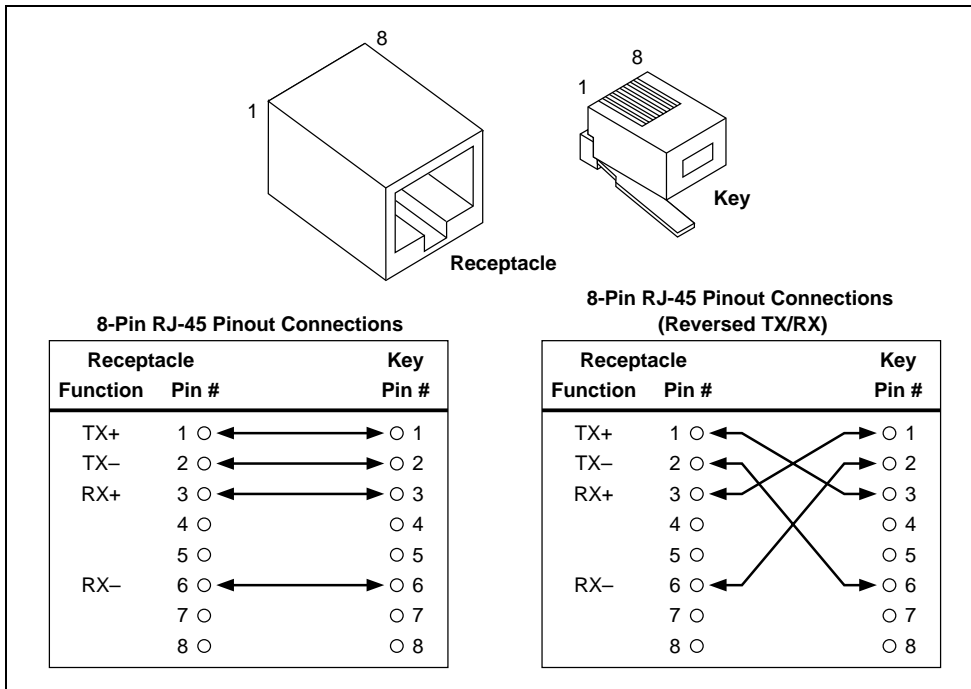

Figure H-1. 10BaseT Ethernet Cables
This appendix details the unshielded twisted-pair (UTP) cables used for 10BaseT Ethernet interconnection. UTP cable configurations are summarized in Figure H-1.
Patch cord cables connect an instrument or host computer to an existing 10BaseT hub, usually via a network outlet. A patch cord cable is characterized by pin-to-pin conformity (see Figure H-1).
Direct connection cables are used to make a direct connection between an instrument and a host computer. A direct connection cable is characterized by crossing the receive (RX) and transmit (TX) signals lines. This allows the RX line input to become a TX output, and vice versa (see Figure H-1). This signal reversal is a requirement when making a direct connection between an instrument and host computer. Be sure you use twisted-pairs for the RX and TX lines.